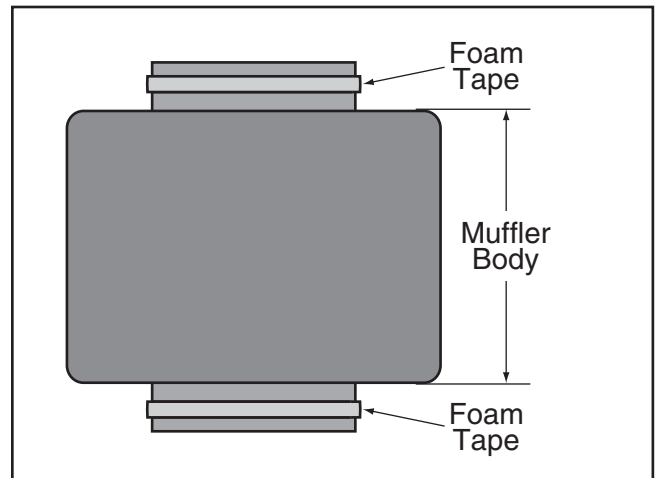

Figure 2. Size of muffler body.
1. Measure the size of the muffler body (see **Figure 2**).
5. Apply the 3 x 15mm foam tape to the top and bottom rims of the muffler (see **Figure 2**).